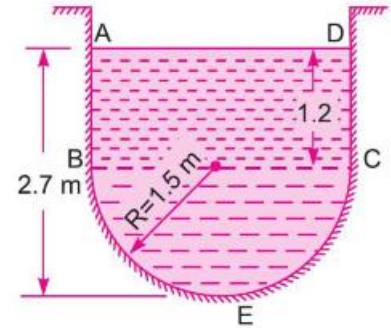

Fig. 16.5
**Problem 16.6** Find the discharge of water through the channel shown in Fig. 16.5. Take the value of Chezy's constant = 60 and slope of the bed as 1 in 2000.
From Fig.16.5, Area,  $A = \text{Area } ABCD + \text{Area } BEC$